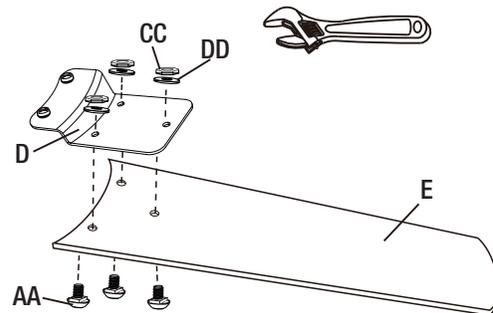

Figure 12
- Mount the blade holders (D) to the fan blades (E) using the square neck screws (AA), hex nuts (CC) and flat washers (DD) provided - 3 each per blade (Figure 12).